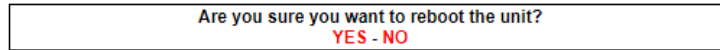

Figure 62. Configurator GUI (unit reboot dialog)
- The unit reboot dialog will be shown (Figure 62 \(page 138\)).